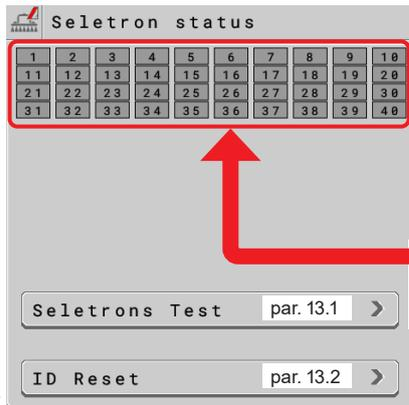

Fig. 113
• Make sure that ALL SELETRON DEVICES ARE DISCONNECTED: they must be shown on the display only with the symbols , as shown in Fig. 113.